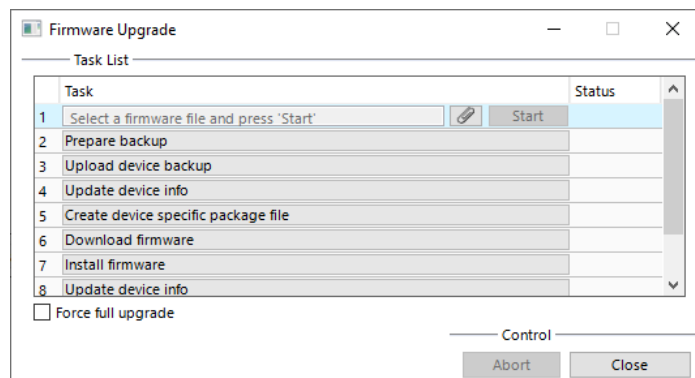

Figure 313: Firmware Update dialog of the Configurator.
8. This opens the **Firmware Update** dialog as shown in Figure 313. Click on the button  and select the firmware image.